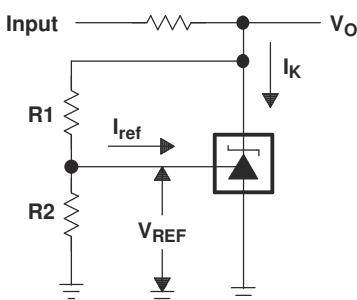

Figure 4-2. Test Circuit for $V_{KA} > V_{REF}$
- REF is connected to ground and cathode via resistors as shown in the Figure 4-2